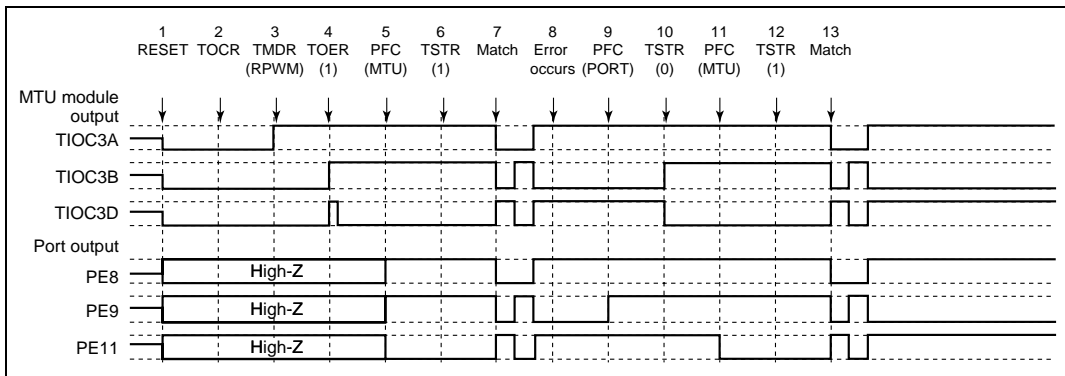

Figure 10.113 Error Occurrence in Reset-Synchronous PWM Mode, Recovery in Reset-Synchronous PWM Mode
(29) Operation when Error Occurs during Reset-Synchronous PWM Mode Operation, and Operation is Restarted in Reset-Synchronous PWM Mode: Figure 10.113 shows an explanatory diagram of the case where an error occurs in reset-synchronous PWM mode and operation is restarted in reset-synchronous PWM mode after re-setting.